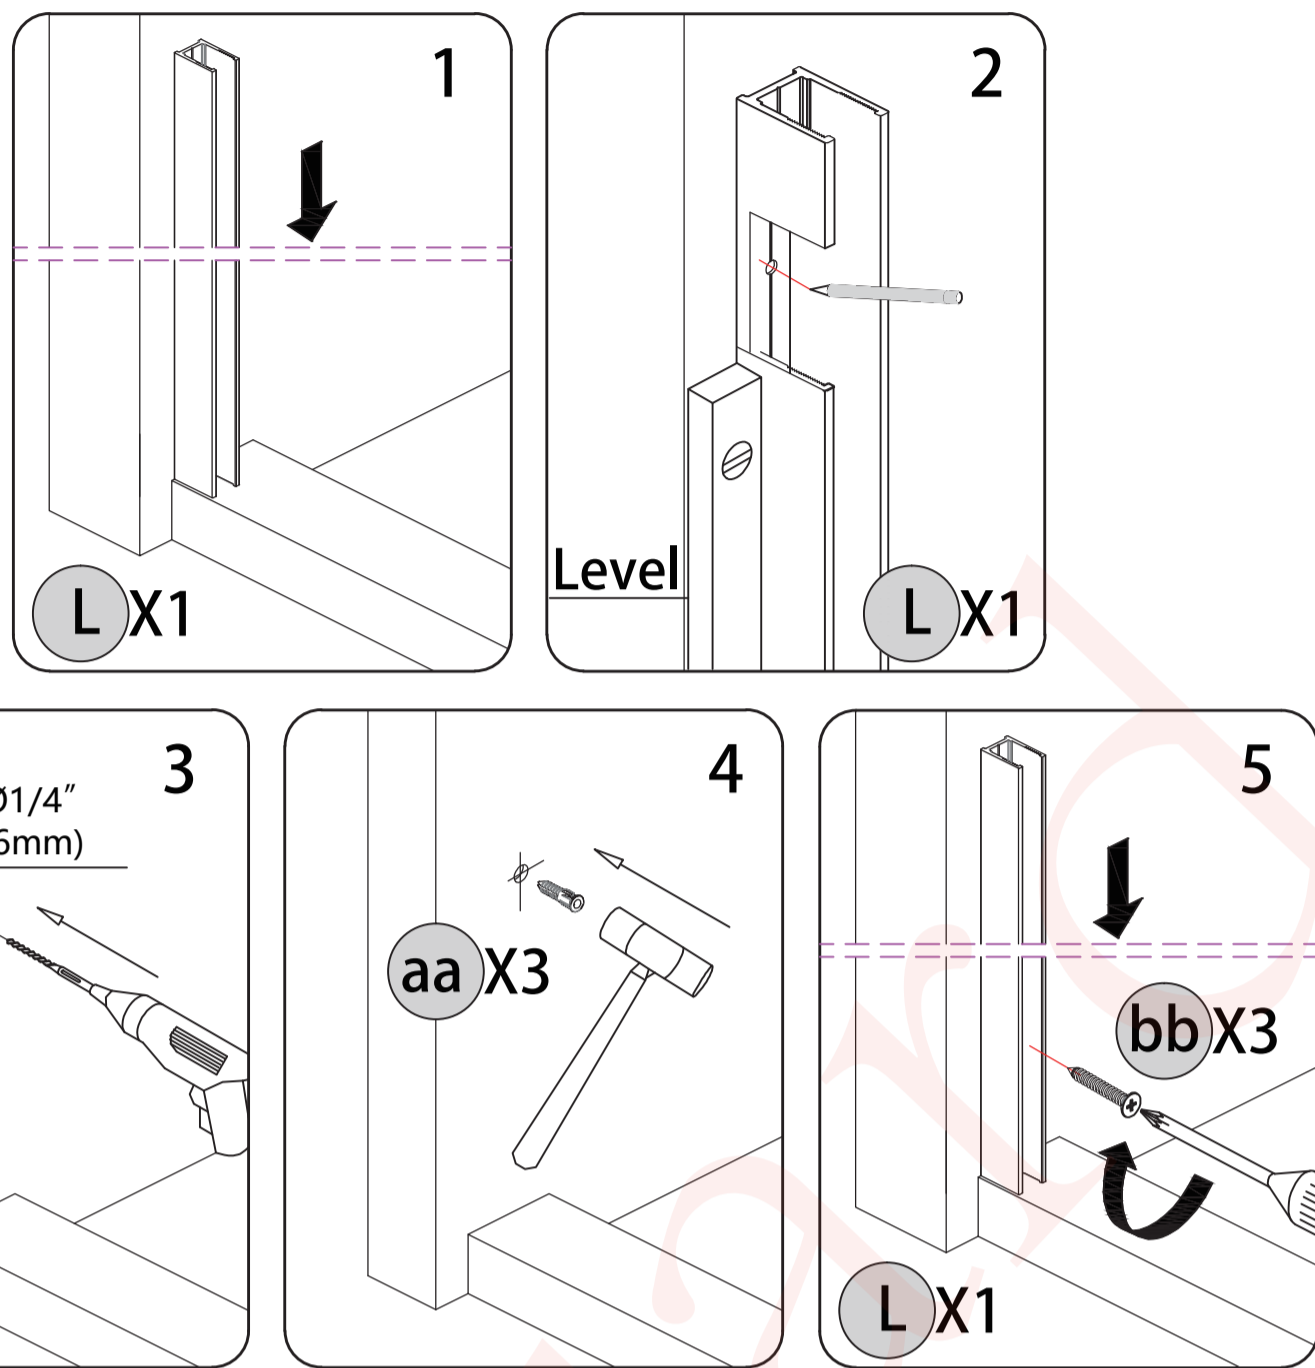

Fig5
**5** Remove the **Wall Jamb (L)** from the wall and drill the anchor holes using a  $\varnothing 1/4"$  drill bit and insert the **Wall Anchors (aa)** . Attach it to the wall using three of the **Screw ST4\*30 Countersunk Screws (bb)** . (Fig 5)